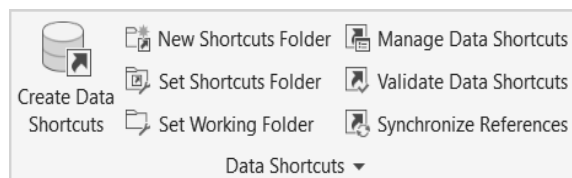

Figure 2–6
11. The Autodesk Civil 3D tools for Data Shortcuts are located in the *Manage* tab (as shown in Figure 2–6), and in the Toolspace, *Prospector* tab.